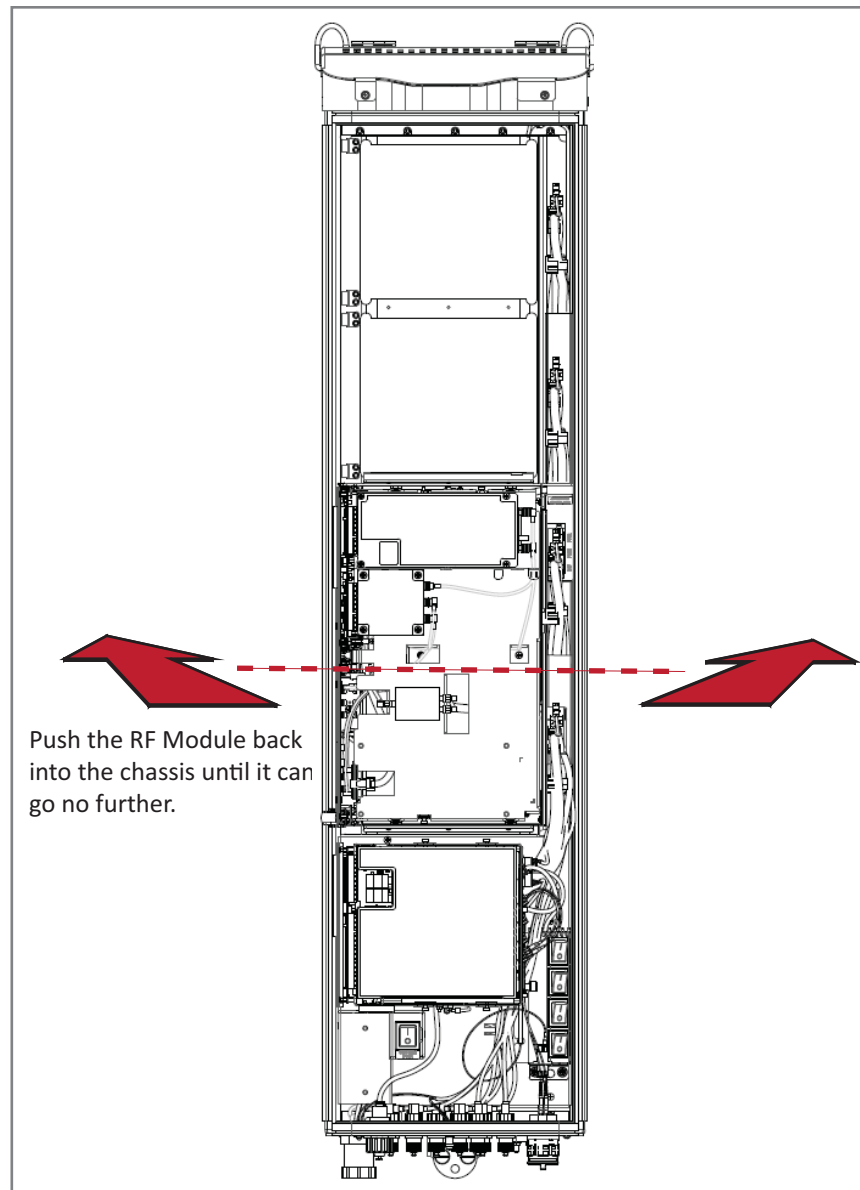

Figure 27. Seating a Dual-Bay RF Module
- For Dual-Bay RF Modules, see Figure 27 on page 97, which uses the Legacy Dual-Bay 40W RF Module as an example.